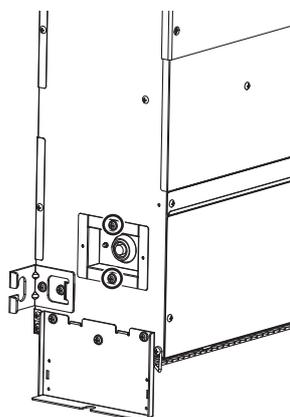

Fig. 15
- (2) Remove the two bearing retainer screws to remove the bearing. (Fig. 15)